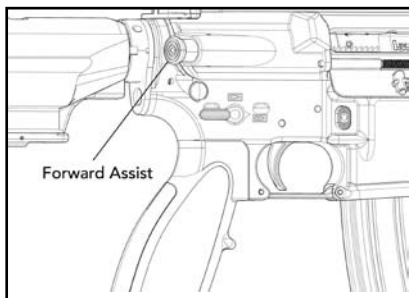

Fig. 19 – Tap Forward Assist
7. Tap the forward assist to ensure the bolt is fully forward and locked (Fig. 19).